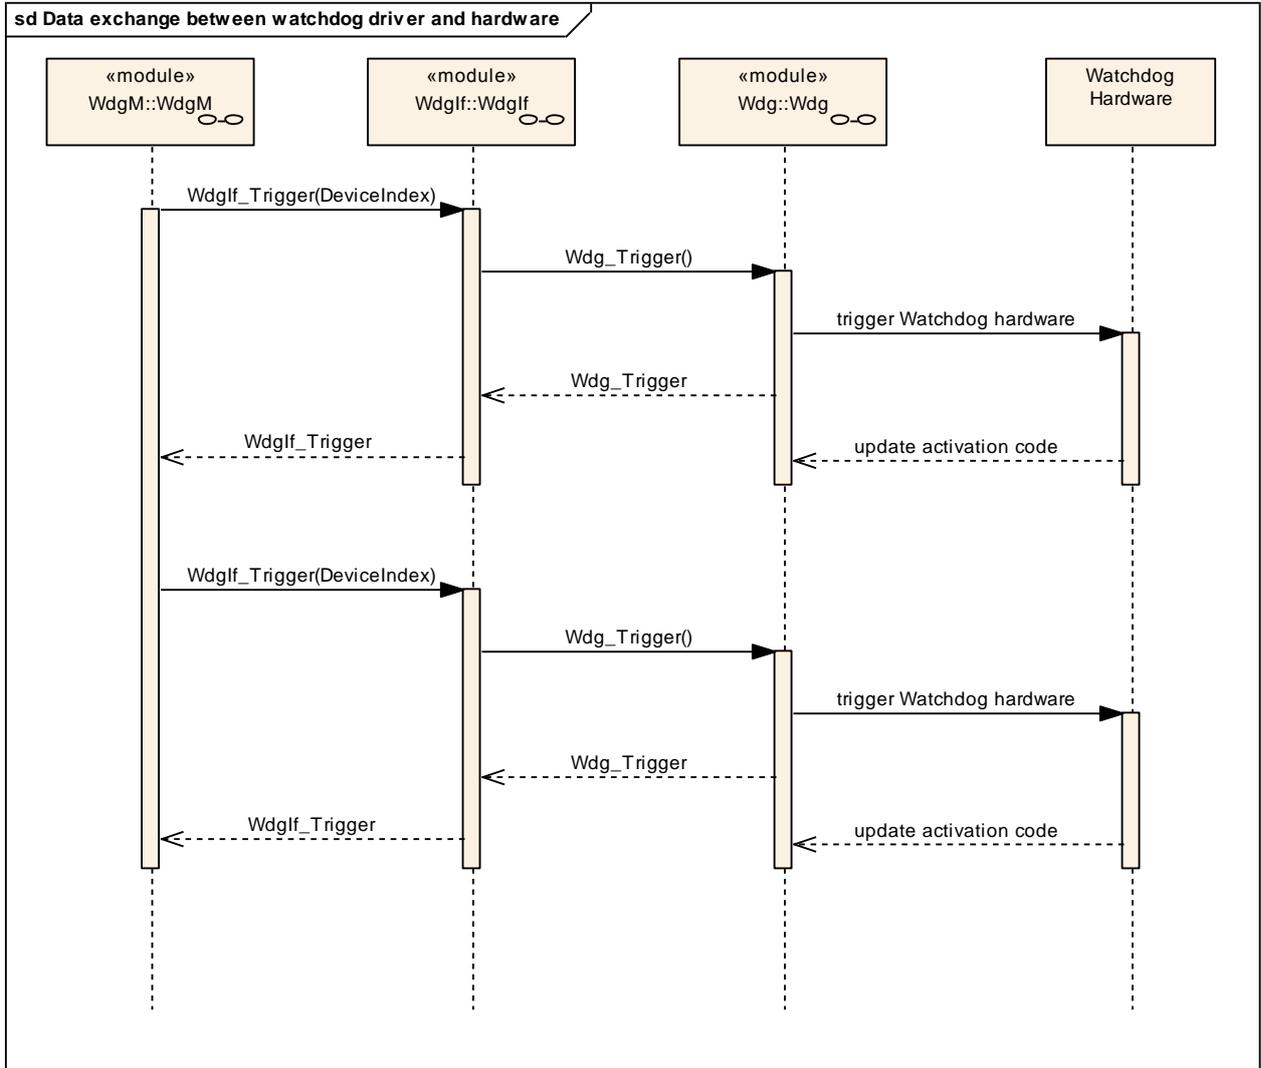

Figure 3: Data exchange between watchdog driver and hardware
**WDG094:** If the watchdog hardware requires an activation code which can be configured or changed, the trigger cycle of the Wdg module shall be defined with a value so that updating the activation code by the watchdog hardware can be guaranteed (see Figure 3).